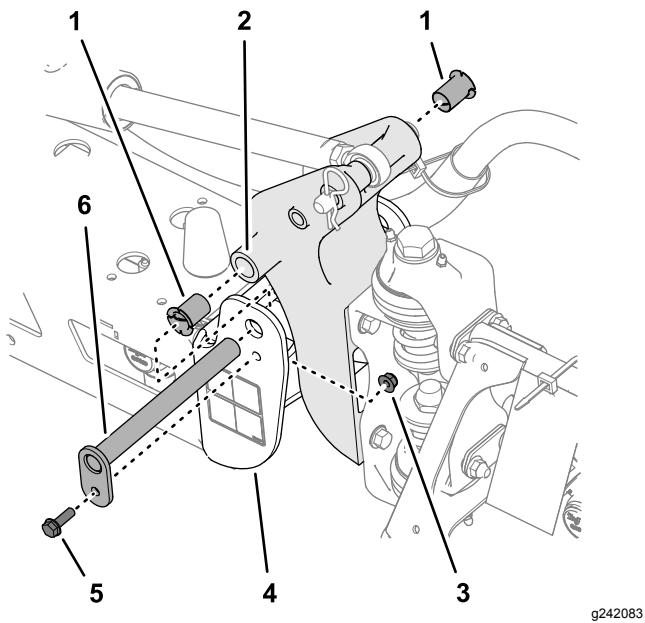

Figure 107
3. Remove the bolt and nut that secure the pivot pin, and remove the pin (Figure 107).
5. Remove and inspect the nylon bushings from the front and back sides of the pivot bracket (Figure 107).
6. Lubricate the nylon bushings with a small amount of oil and install the bushings into pivot bracket (Figure 107).
7. Align the holes in the pivot bracket with the holes in the end channel (Figure 107).